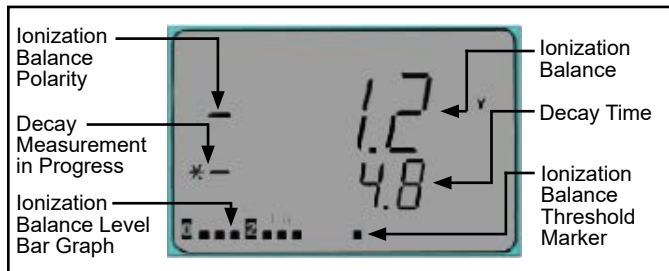

Figure 14. Balance and Decay Mode channel
1. Toggle the joystick until the Ionization Balance and Decay channel is displayed (Figure 14).